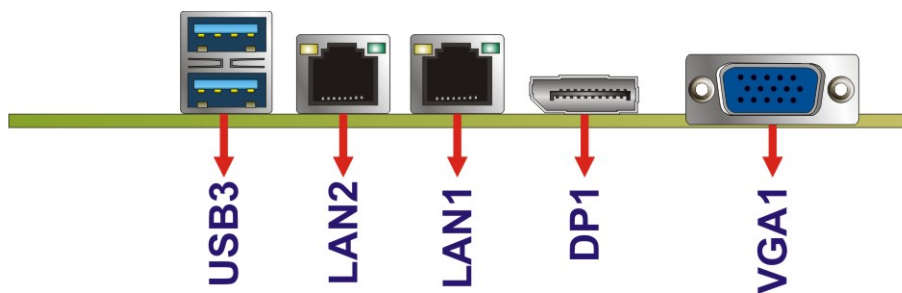

Figure 3-26: External Peripheral Interface Connector
Figure 3-26 shows the WAFER-AL external peripheral interface connector (EPIC) panel.
CN Location:	See Figure 3-26
**CN Location:** See **Figure 3-26**
- CN Location:See Figure 3-26
- CN Location:** See **Figure 3-26**